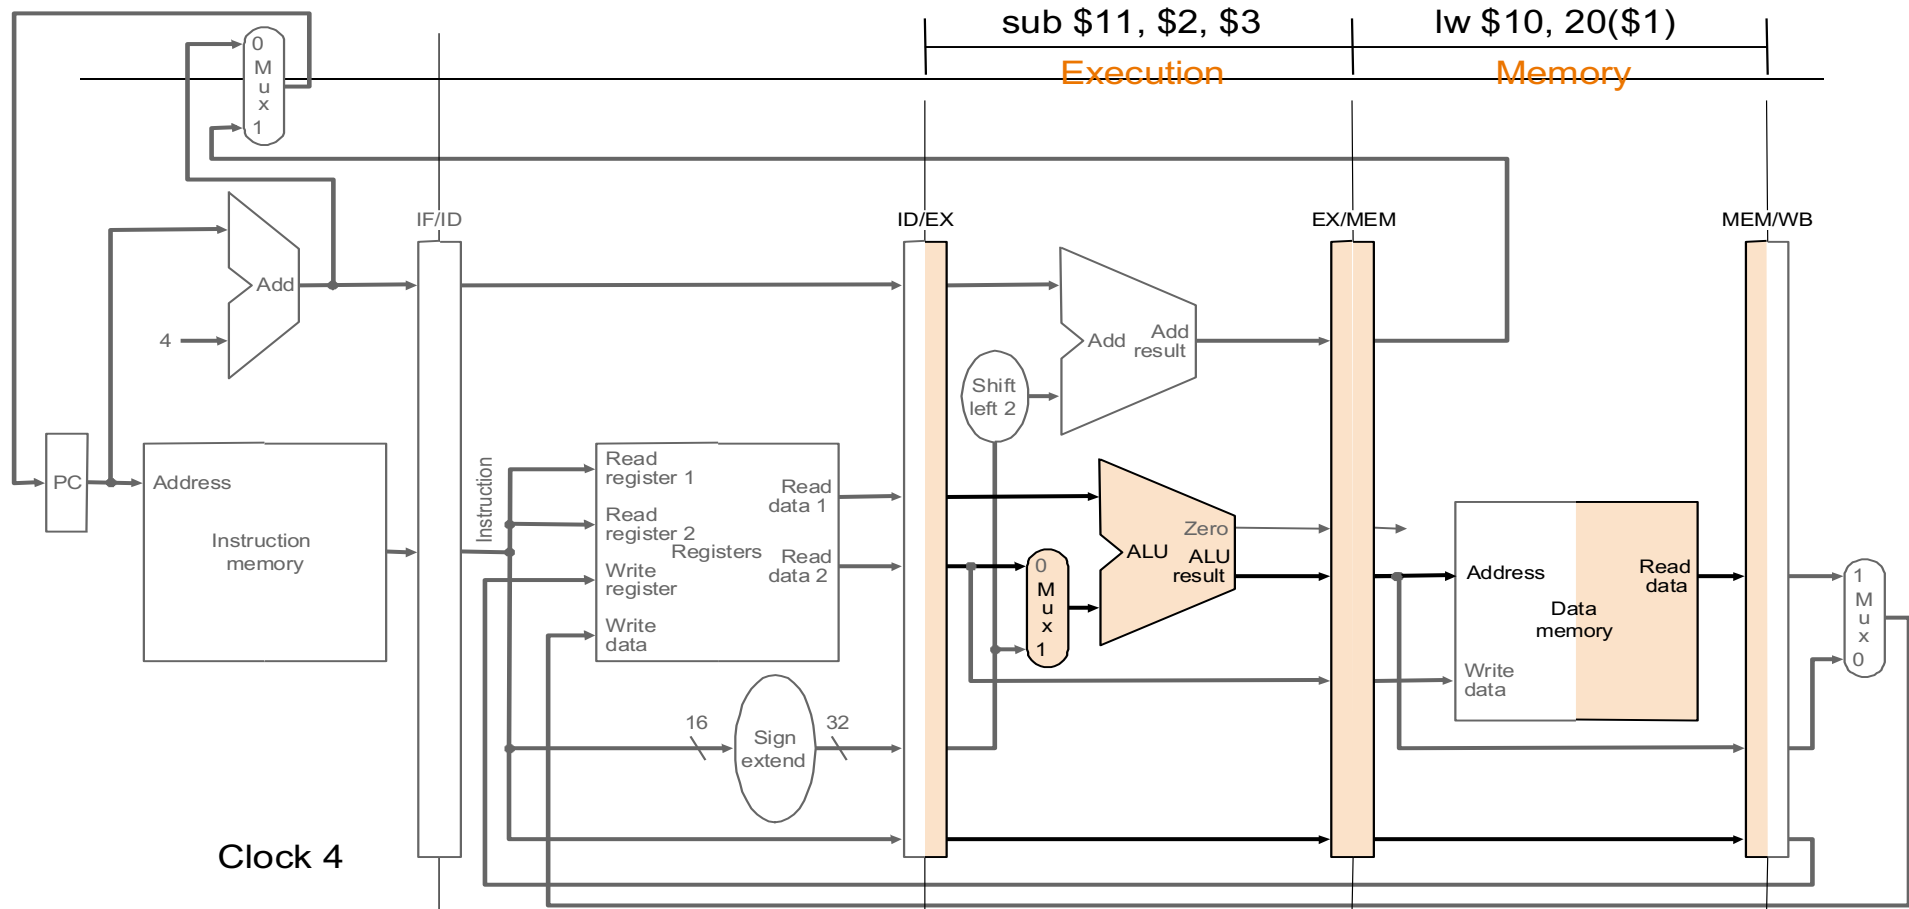

Fig. 6.23
- Can use control signals of single-cycle CPU (Fig. 6.23, 6.24, 6.25 \Leftrightarrow 5.12, 5.16, 5.18)